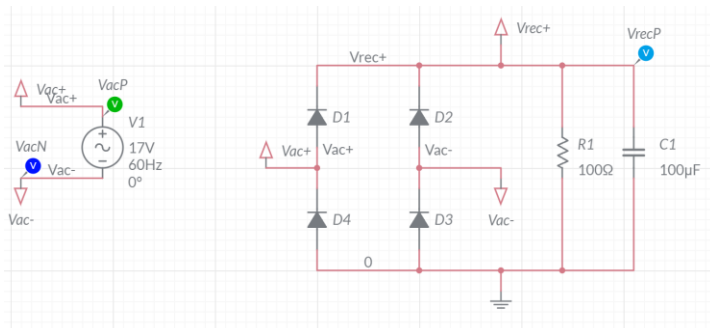
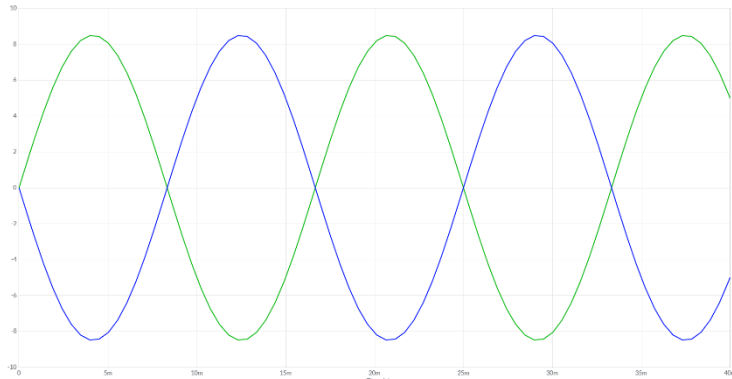
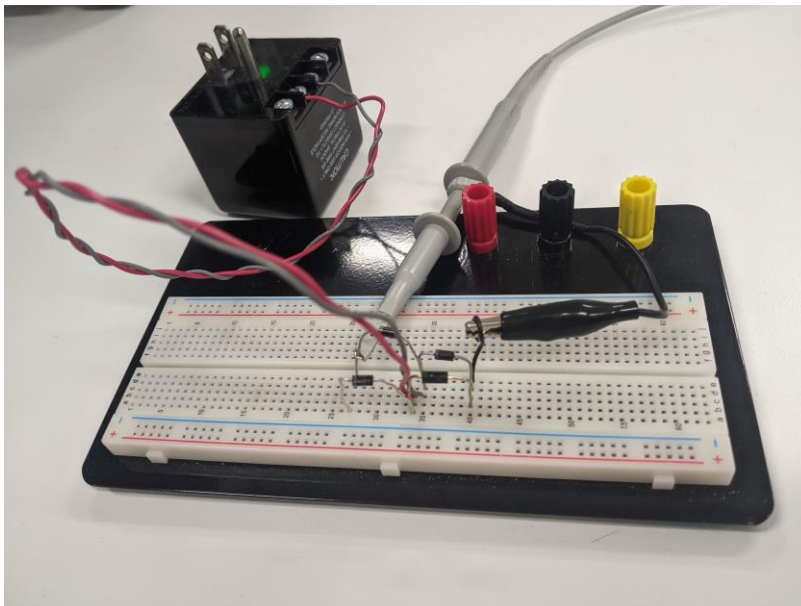

Figure 1: The full bridge rectifier converts the 17V AC input into DC output.
Figure 2: The  $V_{ac+}$ ,  $V_{ac-}$  input to the full-bridge rectifier.
Figure 5: The diodes and AC input of the rectifier are assembled and ready to test. The GND clip forms the GND node in your circuit.
A rectifier is an electrical device that converts an AC signal into a DC signal. A full-bridge rectifier is a rectifier that uses the arrangements of four diodes shown in Figure 1 along with the 100 $\mu$ F capacitor C1. The input to this rectifier is the 17V AC signal on the left side of Figure 1. The DC output of the rectifier is the voltage difference  $V_{rec+}$  to  $V_{rec-}$ . The load is modeled as the 1k resistor R1.
Let's start our journey by examine the function of the four diodes in Figure 1 by applying the waveform shown in Figure 2 as the AC input. For this thought experiment, remove the resistor R1 and capacitor C1 from the circuit. The green waveform in Figure 2 is  $V_{ac+}$  and the blue waveform is  $V_{ac-}$ . Assume a diode drops 0.7V when forward biased.
Now that you have a better understanding of the role of the 4 diodes in Figure 1, let's explore the role of the capacitor and resistor.
The capacitor  $C1$  in Figure 1 is called the "filter capacitor" because, along with the load resistor, forms a low pass filter with time constant  $R1 \cdot C1$ . If the time constant of this low pass filter is large compared to the period of the 60Hz ac input, the capacitor voltage will look like a DC voltage with low amplitude 60Hz ripples between the peaks of the AC input. We will explore these ripples in the following section.
Let's look at the detailed behavior of the full-bridge by simulating the circuit in Figure 1. Do this by logging into your Multisim Live account. You can find the parts for the Multisim schematic using the information in the following table.
The ripple voltage depends on the resistor and capacitor in Figure 1 because once the Vac voltage starts dropping off, the charging diodes become reverse biased, leaving the stored charge on the filter capacitor C1 to supply the output voltage. Since this capacitor voltage is in parallel with the load resistor R1, the capacitor discharges. This is an RC decay with the familiar equation,  $V_0 e^{-t/R1 \cdot C1}$
- 2) What is the voltage drop across the diode (in our lab) when the current is 0.1A? Hint, use Figure 1.
Use the schematic in Figure 1 as a guide to arranging your diodes. Double-check the polarity of your diodes using your DMM in the diode checking mode (press the button with the diode symbol). The positive end of the diode (anode) should be on the GND side of the circuit (right in Figure 5) and the forward voltage drop should be around 0.5V.
You should come up with something that looks similar to Figure 5.